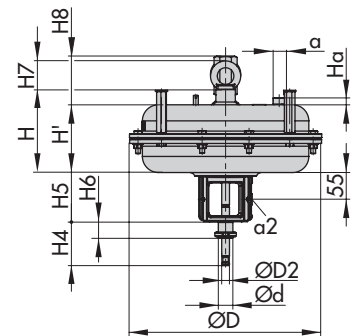

Fig. 23: Type 3277 with travel stop
1) Travel stop on both sides (Fig. 23)